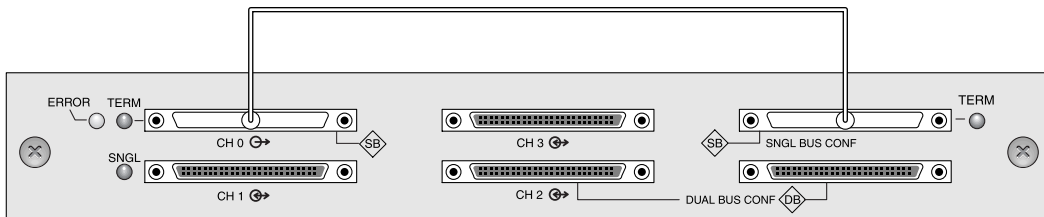

FIGURE 4-9 Single-Bus Connection: All Drives are Assigned to a Single Channel (CH 0)
1. To configure a RAID array as a single-bus configuration, connect the SCSI jumper cable between the SCSI ports labeled “CH 0” and “SNGL BUS CONF” as shown in FIGURE 4-9. Tighten the cable jack screws with six full clockwise turns to ensure proper connection and operation.